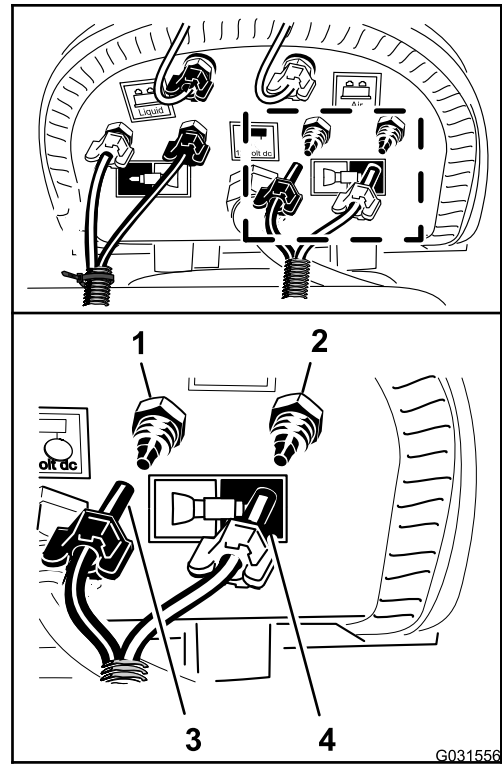

Figure 175
7. Connect the unmarked (no cable tie) tubing by aligning the blue tube for the left boom section onto the compression fitting for the left boom section water circuit (Figure 175).
8. Assemble the compression nut for the tube onto the fitting and tighten the nut by hand (Figure 175).
9. Aligning the clear tube for the left boom section onto the compression fitting for the left boom section air circuit (Figure 175).
10. Assemble the compression nut for the tube onto the fitting and tighten the nut by hand (Figure 175).